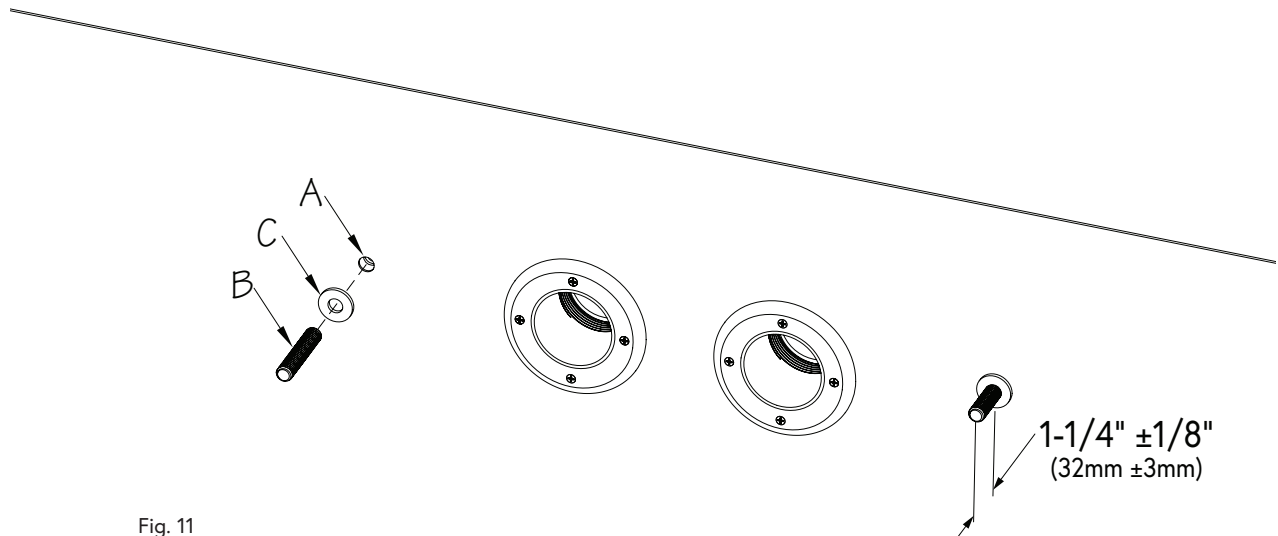

Fig. 11
10. Locate the mounting holes (A) drilled into the pool wall (behind the liner). Use a sharp utility knife to cut out the round holes in the liner using the mounting holes as a template.
Thread the Stud (B) into the Coupler so that  $1\text{-}1/4" \pm 1/8"$  ( $32\text{mm} \pm 3\text{mm}$ ) of the stud is protruding into the pool. Spread a thin bead of silicone on the face of the Rubber Washer (C) and then install the washer over the Stud, adhering to the liner (Fig. 11).